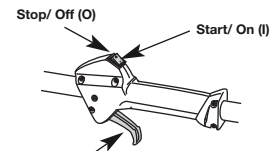

Fig. 8
NOTE: There is no need to turn the unit on. The On/Off Stop Control is in the ON (I) position at all times (Fig. 8).